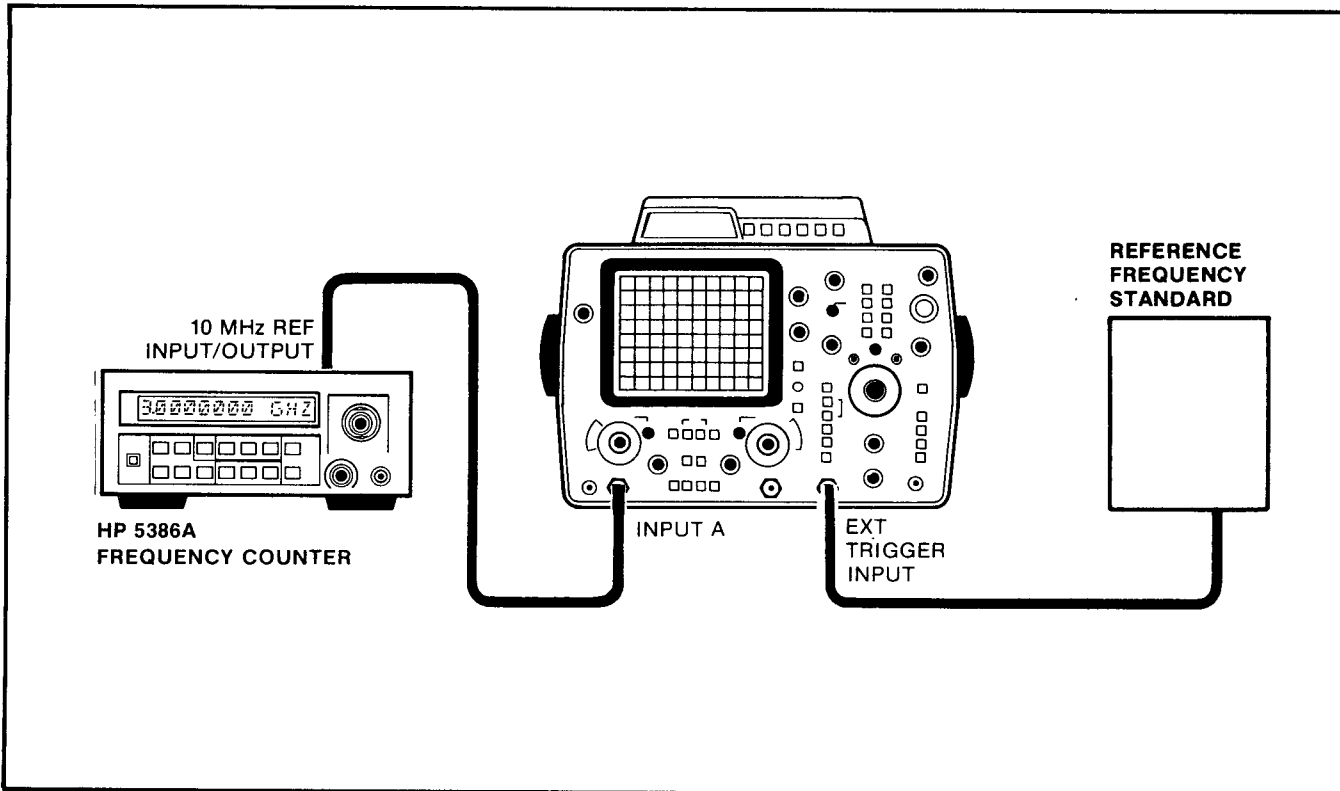

Figure 5-4. TCXO and Oven Oscillator Test Setup
- a. Connect a house standard (reference frequency) to the EXT TRIGGER input of an HP 1740A oscilloscope as shown in Figure 5-4. Set the HP 1740A oscilloscope to EXT (trigger).
b. Connect a house standard (reference frequency) to Channel A of the HP 5386A as shown in Figure 5-4.
c. Connect a house standard (reference frequency) to the EXT TRIGGER input of an HP 1740A oscilloscope as shown in *Figure 5-4*. Set the 1740A Oscilloscope to External Trigger.
d. Connect the HP 5386A rear panel 10 MHz REFERENCE IN OUT to the Channel A input of the HP 1740A oscilloscope as shown in *Figure 5-4*.